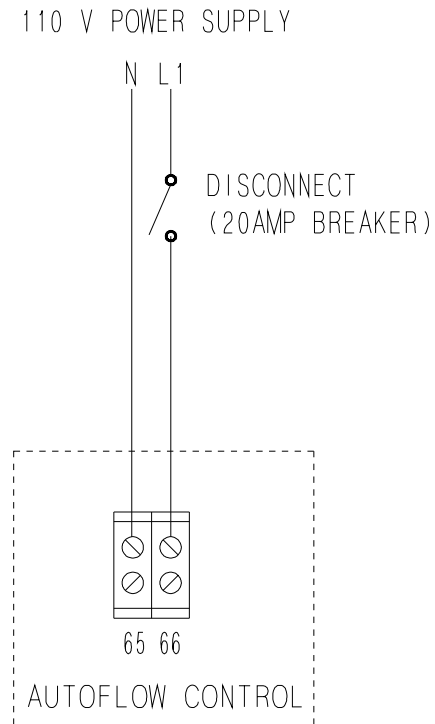

Figure 13.
1. Run (3) 14 guage wires (black, white and green) from main power box (20 amp breaker) to Autoflow Control Box.
2. Make wire connections as shown in Figure 13.